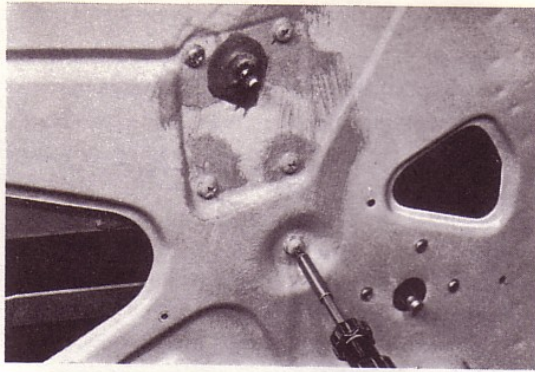

Fig. 25. Removing the winding mechanism.
5. Unscrew the five screws for the winding mechanism, see Fig. 25, and remove the mechanism.